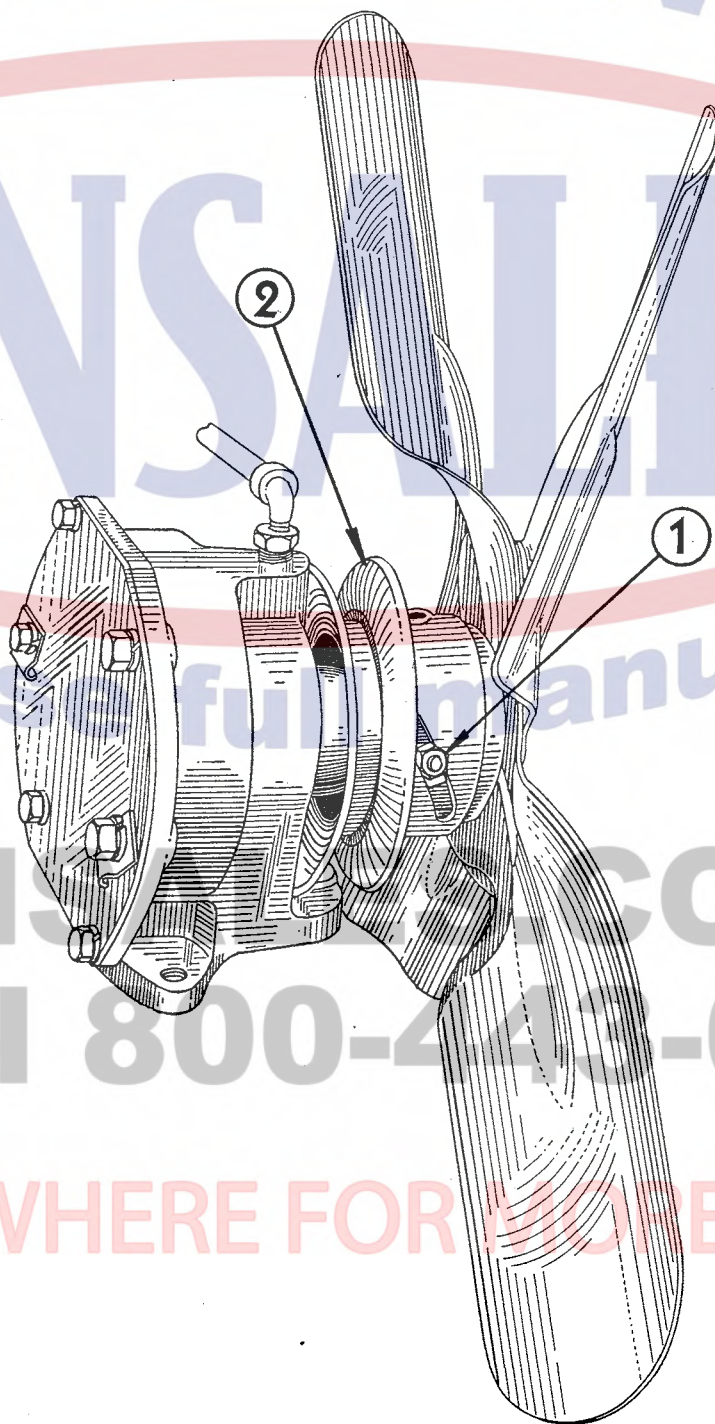

Fig. 7. Fan and Water Pump
Loosen two hexagon nuts, one of which is shown at (1) Fig. 7 and to tighten turn the front half of the pulley (2) in the direction in which the fan blades turn. The tension should be just enough to take up any looseness or slack. Too tight a belt causes excessive belt wear, excessive load on the bearings, and does not aid cooling. A V-belt can be run much looser than a flat belt for equal slippage, due to the wedging action of the pulleys. After adjusting belt, tighten hexagon nuts.